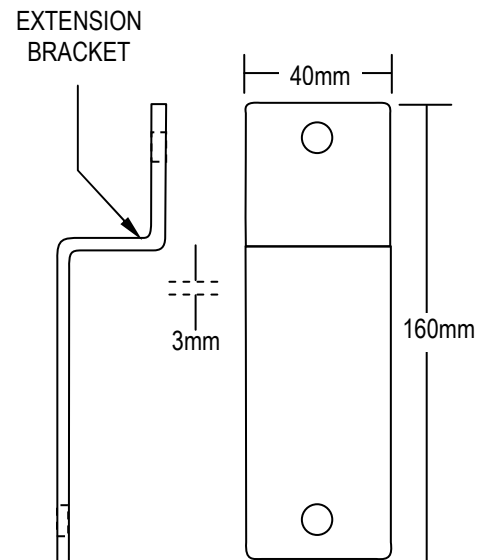

FIGURE 1
- The Extension Bracket measures approximately (W) 40mm x (H) 160mm x (T) 3mm. as shown in Fig.1.